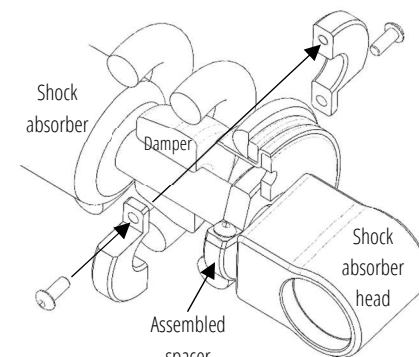

Fig.2
10. Put the two included spacers on the shock absorber rim as shown on the Figure 2 Use thread locking glue on bolts (not included). The spacers should be between the damper and shock absorber head.